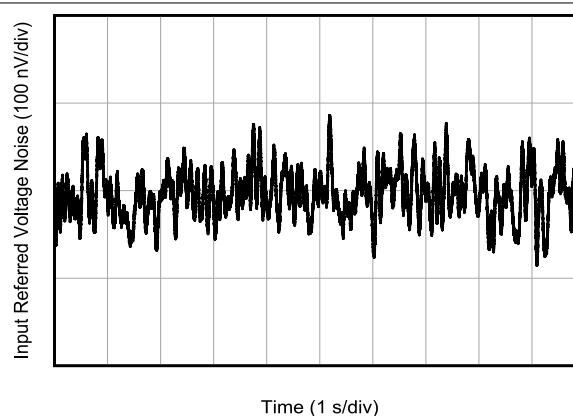

Figure 5-24. 0.1-Hz to 10-Hz Noise
0.1-Hz to 10-Hz Noise	Figure 5-24